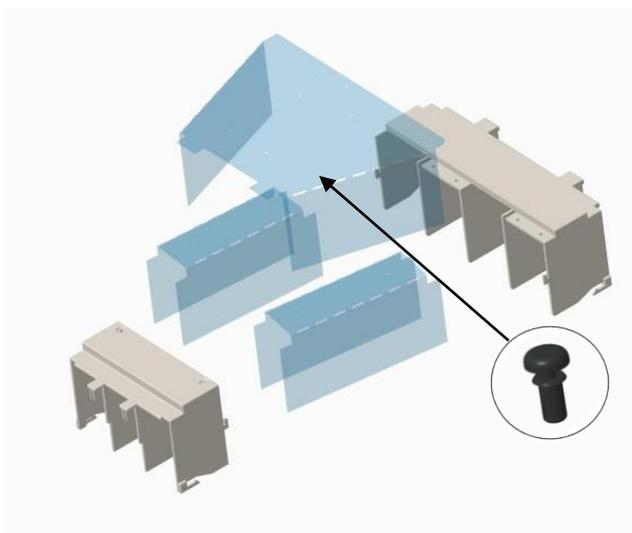

Fig. 6
- Assemble busbar connection cover and interphase barriers as shown on the Fig. 6. Polycarbonate parts will need to be hand bent into shape. Snap fit rivets are to be used to connect all parts together (10 places).